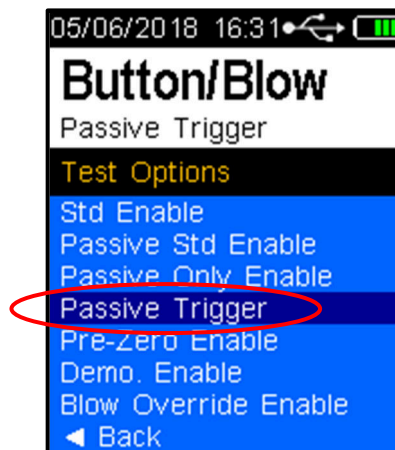

Figure 23 - Passive Trigger
- Using the down button, scroll down to *Passive Trigger* (Refer to Figure 23).